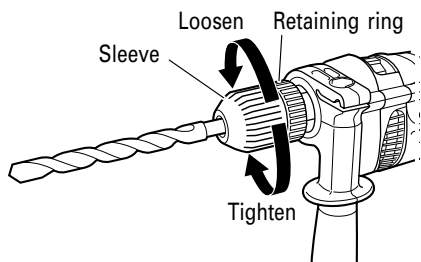

Fig. 3
**For keyless chuck** (Fig. 3)
- (1) Open the chuck jaws, and insert the bit into the chuck.